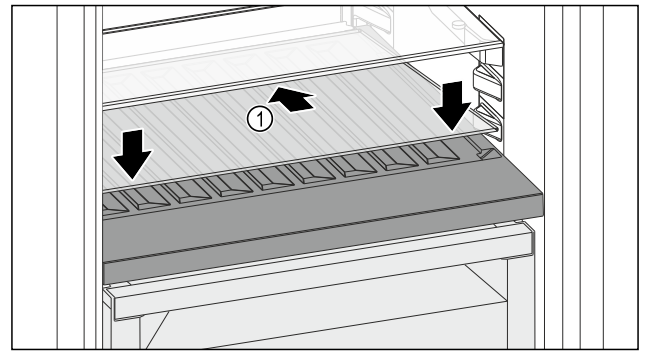

Fig. 134
- ▶ Place the glass shelf Fig. 134 (1) at an angle, sloping it downwards and backwards.
- ▶ Lower the glass shelf Fig. 134 (1) at the front.